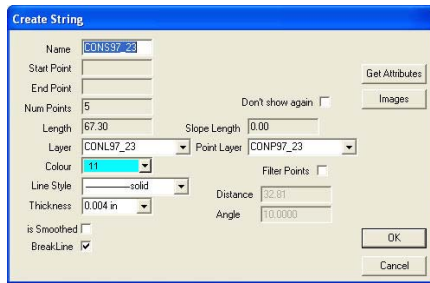

Figure 14-79. Create String Dialog Box
Edit the **From** and **To** fields to define the range of contours to be converted to strings, and then click **OK**. The strings are created for the contour range one at a time. The *Create String* dialog box (Figure 14-79 on page 14-62) displays for each contour line.
3. On the **Create String** dialog box (Figure 14-79 on page 14-62), modify the properties as needed, and click **OK**. For a description of the create string fields, see Table 14-13 on page 14-62.